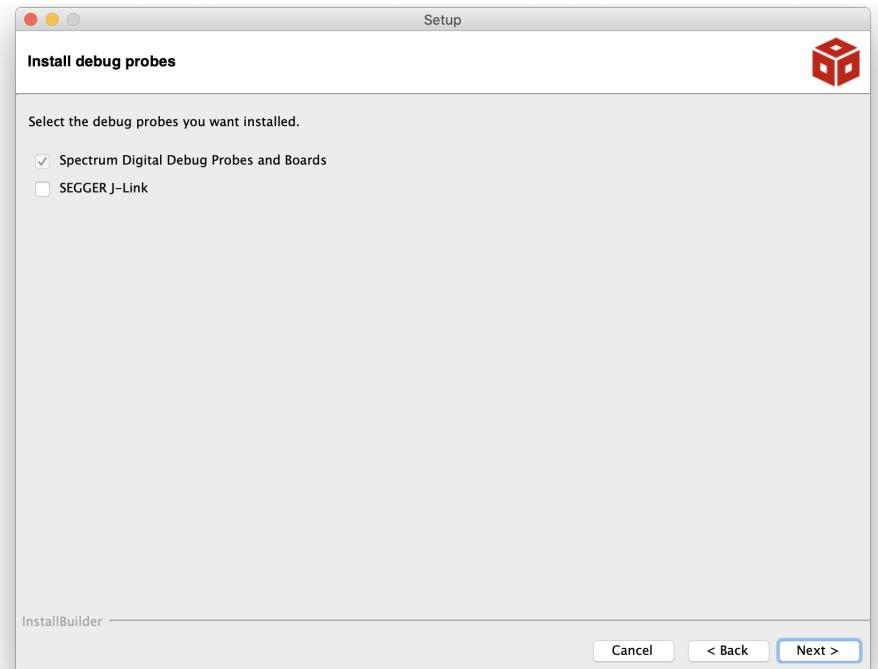

Figure 4: Debug Probes installation step.
**Note:** For the “Debug Probes” installation step, you only need to select “*Spectrum Digital Debug Probes and Boards*” (as shown in Figure 4).